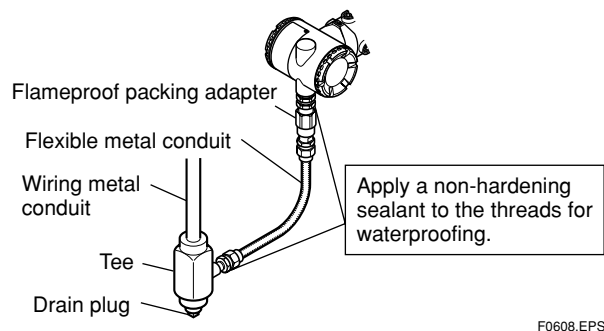

Figure 6.4.2b Typical Cable Wiring Using Flameproof Packing Adapter
■ Wiring cable through flameproof packing adapter for only TIIS flameproof type (see Figure 6.4.2b).